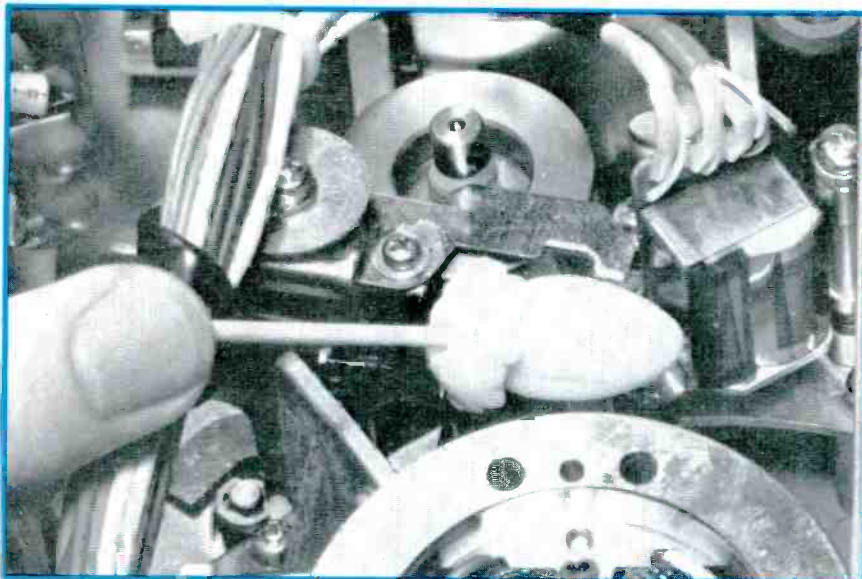

Figure 12: Audio and control track heads in VHS machines are located in front of the swab tip. (Photo courtesy of Nortronics.)
- Locate the control-track and audio heads (at the swab's tip in Figure 12) and clean them by the same general method, using side-to-side brushing movements. Also clean the erase head, which is at the opposite side of the head wheel.